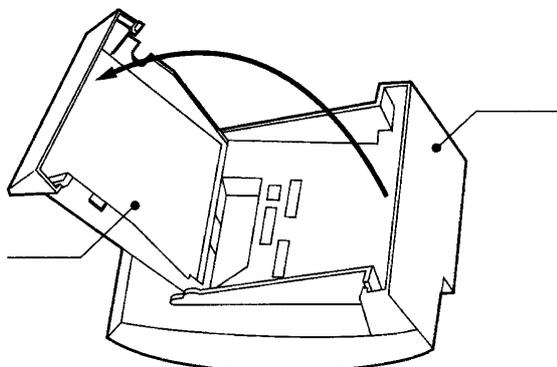

Figure 7-4 Removing Bottom Cover
5. Open and remove Bottom Cover by rotating counterclockwise as shown in *Figure 7-4 Removing Bottom Cover*.